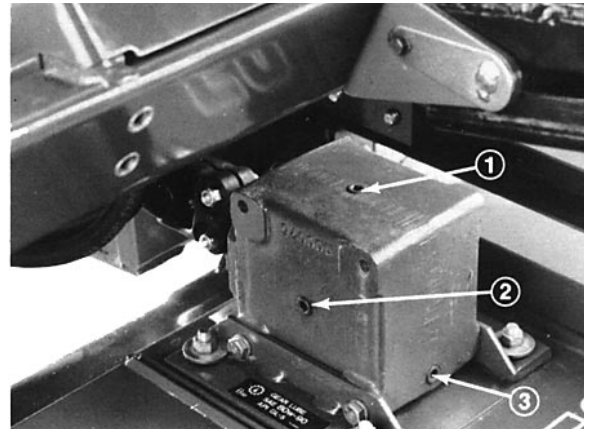

Figure 2
1. Remove the cotter pins securing the roller shafts to the underside of the deck (Fig. 2).
2. Remove the check plug from the side of the gear box and make sure lubricant is up to bottom of the hole (Fig. 2). If the level of lubricant is low, remove the fill plug on top of the gear case and add enough lubricant to bring it up to bottom of the hole in the side.